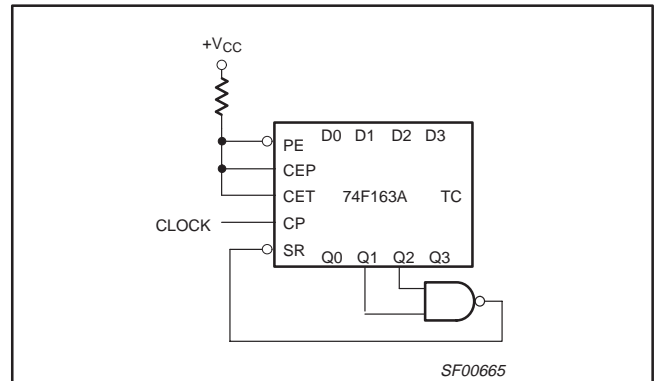
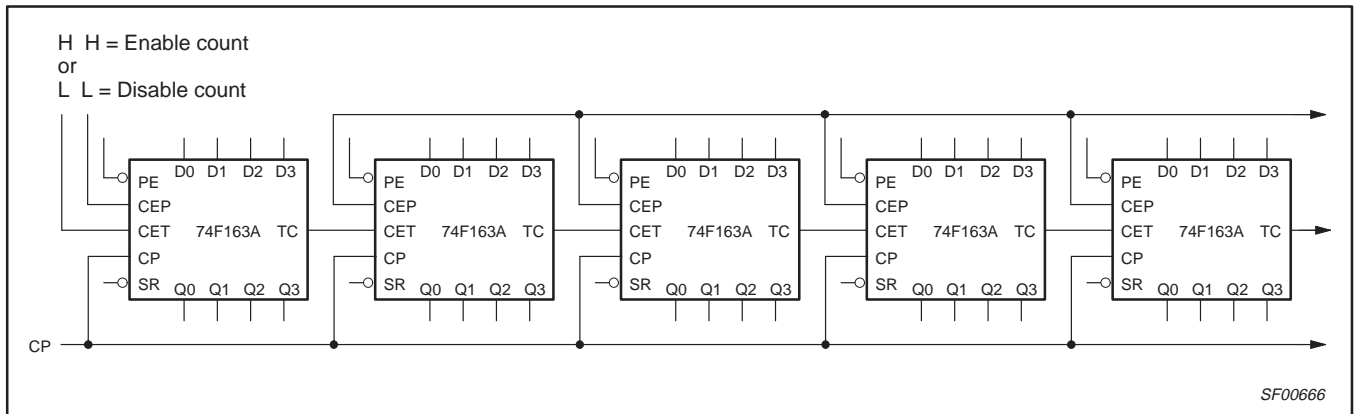

Figure 1. Maximum count modifying scheme
Figure 2. Synchronous multistage counting scheme
A Low level at the Master Reset ( $\overline{MR}$ ) input sets all the four outputs of the flip-flops (Q0 – Q3) in 74F161A to Low levels, regardless of the levels at CP,  $\overline{PE}$ , CET and CEP inputs (thus providing an asynchronous clear function). For the 74F163A, the clear function is synchronous. A Low level at the Synchronous Reset ( $\overline{SR}$ ) input sets all four outputs of the flip-flops (Q0 – Q3) to Low levels after the next positive-going transition on the clock (CP) input (provided that the setup and hold time requirements for  $\overline{SR}$  are met). This action occurs regardless of the levels at  $\overline{PE}$ , CET, and CEP inputs. The synchronous reset feature enables the designer to modify the maximum count with only one external NAND gate (see Figure 1). The carry look-ahead simplifies serial cascading of the counters. Both Count Enable (CEP and CET) inputs must be High to count. The CET input is fed forward to enable the TC output. The TC output thus enabled will produce a High output pulse of a duration approximately equal to the High level output of Q0. This pulse can be used to enable the next cascaded stage (see Figure 2). The TC output is subjected to decoding spikes due to internal race conditions. Therefore, it is not recommended for use as clock or asynchronous reset for flip-flops, registers, or counters.